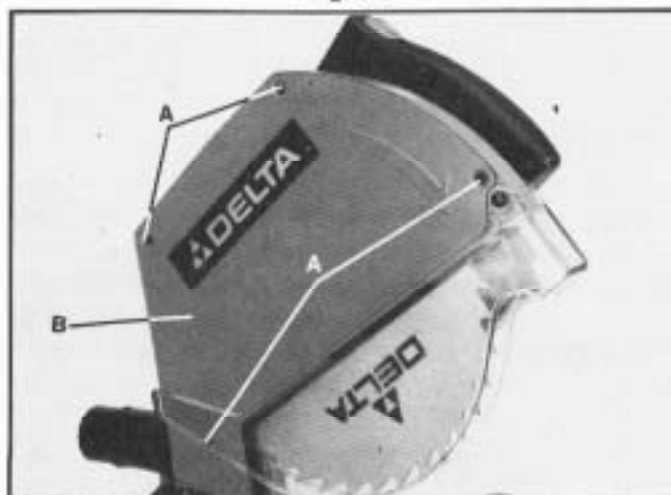

Fig. 8D
9. Replace blade guard side cover (B) Fig. 8D, using four screws (A) that were removed in STEP 1.